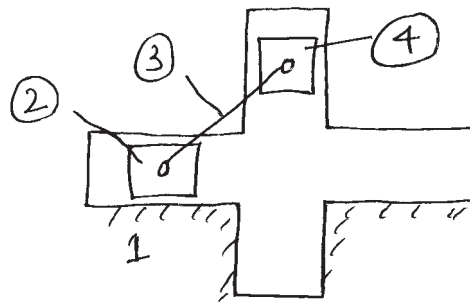

Fig. No. 1
a) Identify Kinematic pairs and name it. Refer Fig. No. 1